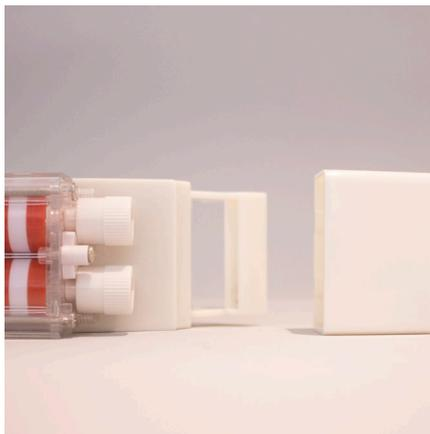

Figure 2
- b) Remove the screw from the triangular plastic safety catch (fig 2). This enables the two limit controls to be depressed, one at a time, by sliding the triangular catch from side to side.